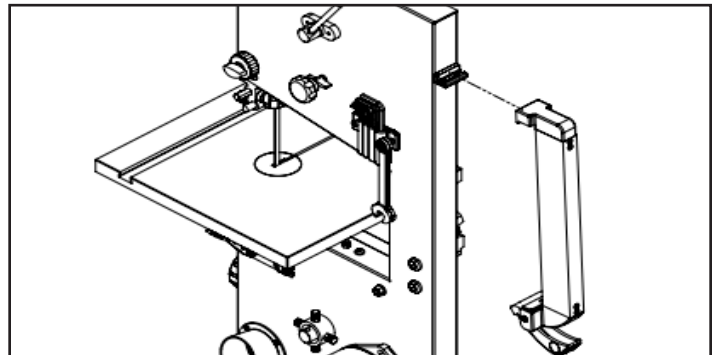

FIGURE 6
1. Install the Fence Storage Hanger Panel (#78) to the top, left side of the column by pressing into the opening in the frame. See Figure 6, which shows the proper position of the hanger. The wider portion should be at the bottom.